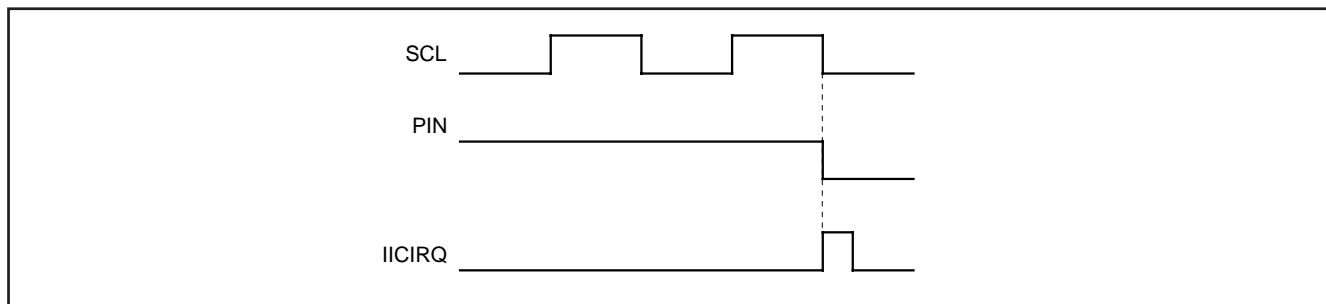

Fig. 8.6.8 Interrupt Request Signal Generation Timing
(5) Bit 4: I²C-BUS interface interrupt request bit (PIN)
This bit generates an interrupt request signal. Each time 1-byte data is transmitted, the state of the PIN bit changes from "1" to "0." At the same time, an interrupt request signal is sent to the CPU. The PIN bit is set to "0" in synchronization with a falling edge of the last clock (including the ACK clock) of an internal clock and an interrupt request signal occurs in synchronization with a falling edge of the PIN bit. When detecting the STOP condition in slave, the multi-master I²C-BUS interface interrupt request bit (IR) is set "0" to "1" (interrupt request) regardless of falling of PIN bit. When the PIN bit is "0," the SCL is kept in the "0" state and clock generation is disabled. Figure 8.6.8 shows an interrupt request signal generating timing chart.